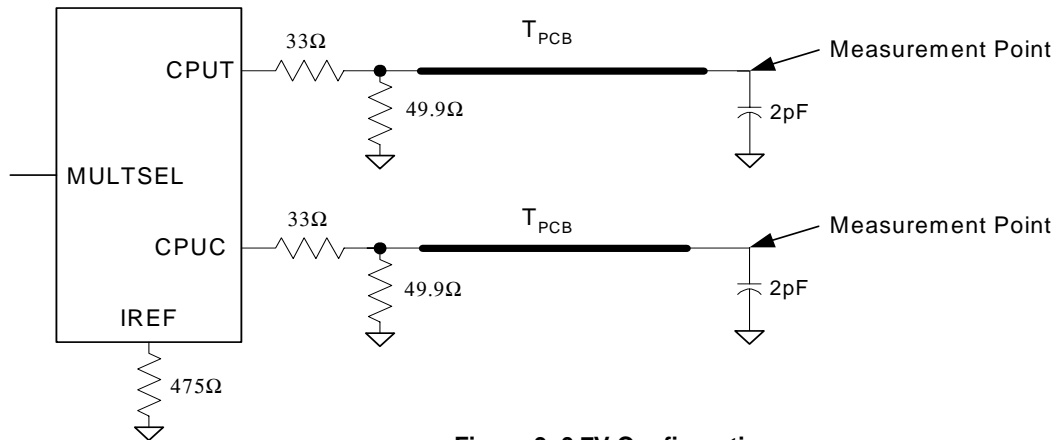

Figure 9. 0.7V Configuration
8. See Figure 9 for CPU clocks measurement point. See Figure 10 for SDCLK, AGP, ZCLK and PCI Outputs measurement point.